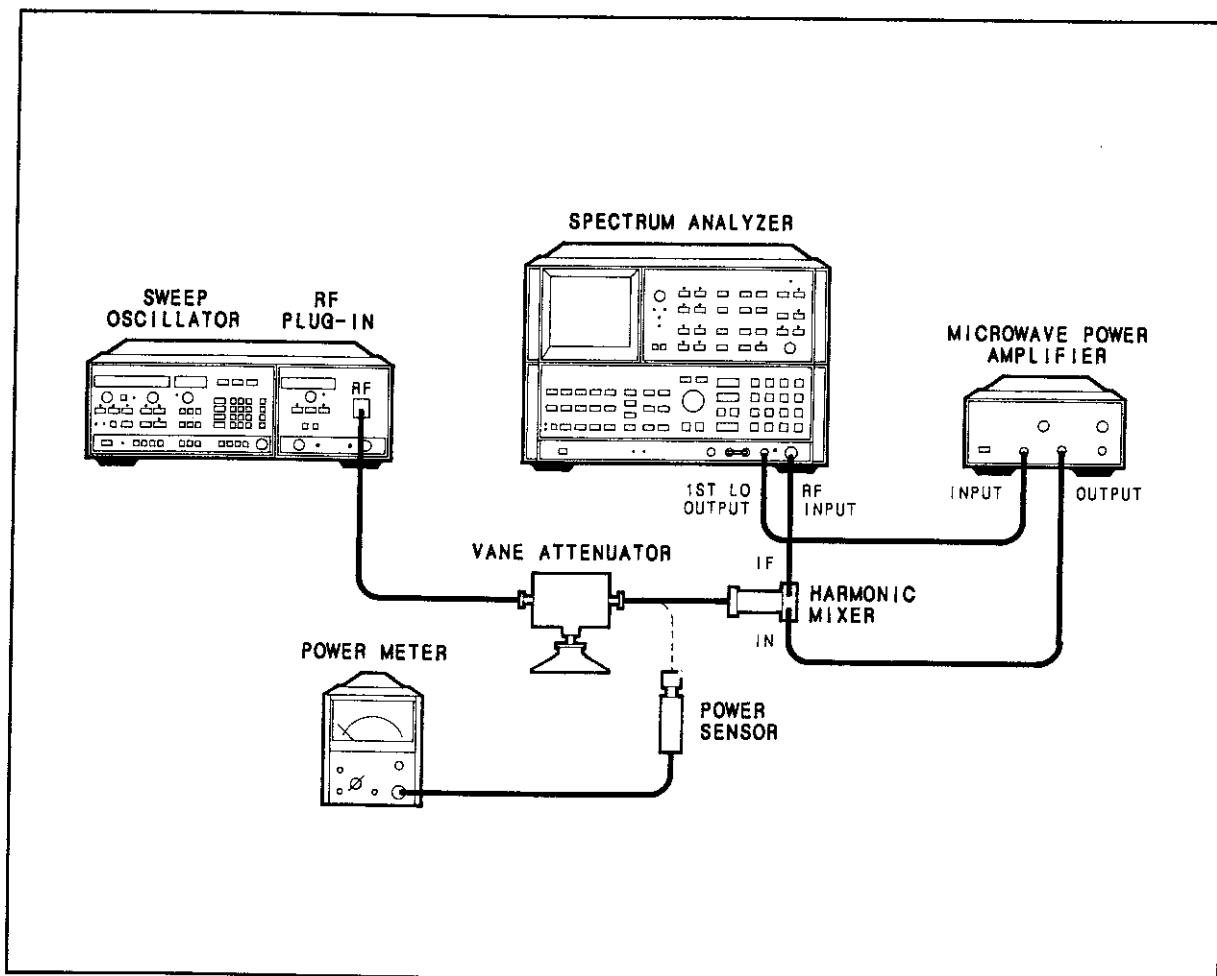

Figure 4-10. Spurious Signals Test Setup
1. Connect the equipment as shown in Figure 4-10, with the HP 83572A/B RF output connected through the external mixer to the spectrum analyzer. Set the vane attenuator to 20 dB.
15. Disconnect the harmonic mixer from the vane attenuator. Connect the power sensor to the vane attenuator as shown in Figure 4-10. Verify that the vane attenuator is set to 20 dB.